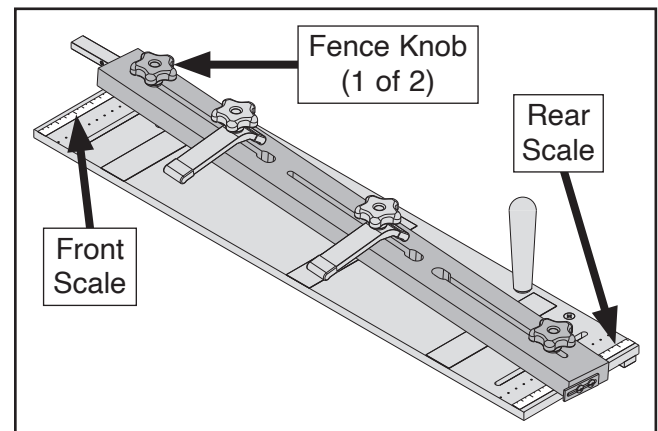

Figure 14. Scale taper adjustment components.
The scale value indicated by the front of the jig fence minus the scale value indicated by the rear of the jig fence will equal the total taper for the distance between the two scales (between 29"–32", depending on where they were installed). For example, if you align the fence with 4" on the front scale and 2" on the rear scale, there is a difference of 2" between them, so the jig will produce a 2" taper per the scale distance (see **Figure 14**).
2. Loosen (2) fence knobs (see **Figure 14**).
3. Align front and rear ends of fence with desired values on scales (see **Figure 14**), then tighten fence knobs to secure setting.